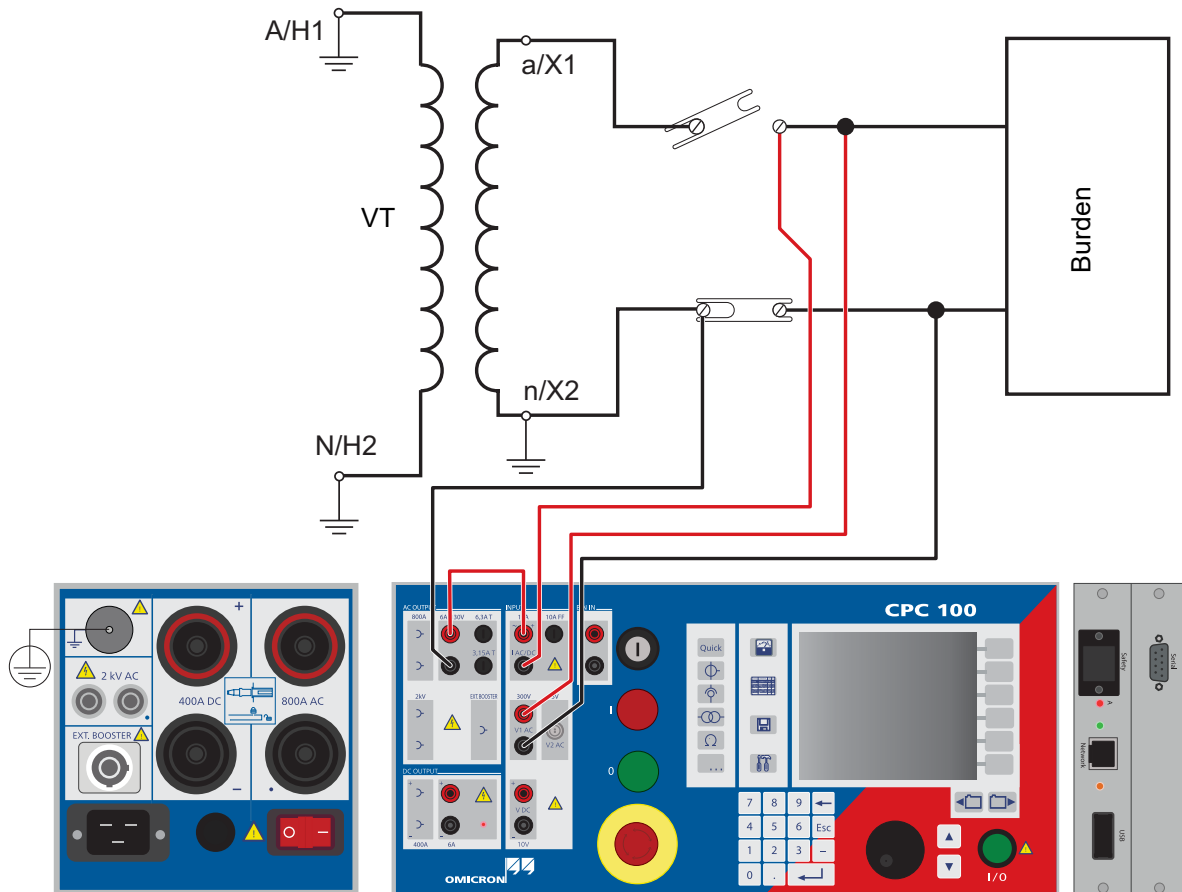

Figure 5-4: Setup for a VT burden measurement
- ▶ To do so, open the circuit as shown in Figure 5-4 and inject the AC voltage from the *CPC 100*'s **130V AC** output into the burden.